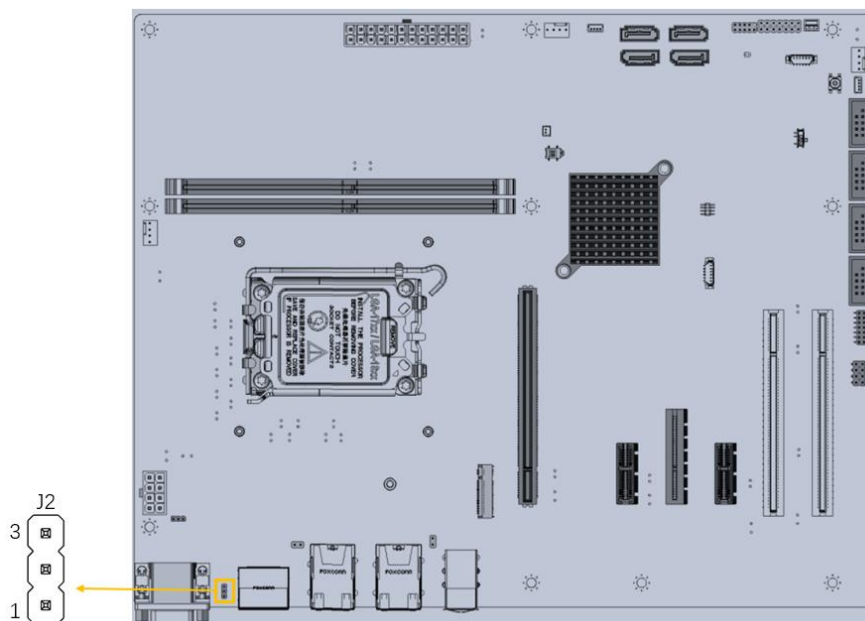

Figure 3-21: LT86101X FW Flash Connector Location
- CN Location:** See **Figure 3-21**